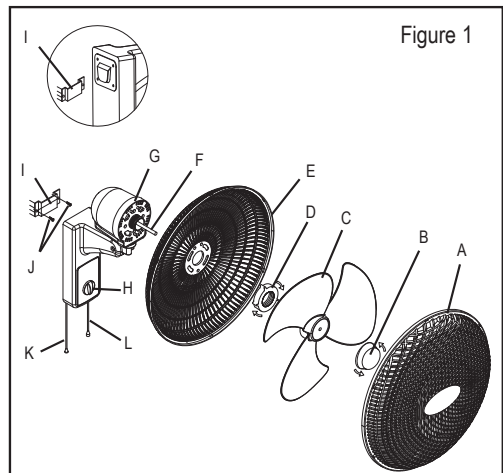

Figure 1
vertically (see figure 1).
2. Pull the RIGHT CONTROL CORD down or turn the SPEED KNOB to select the desired fan speed or to turn it off: "0" for "OFF", "1" for Low Speed, "2" for Medium Speed and "3" for High Speed (see figure 1).